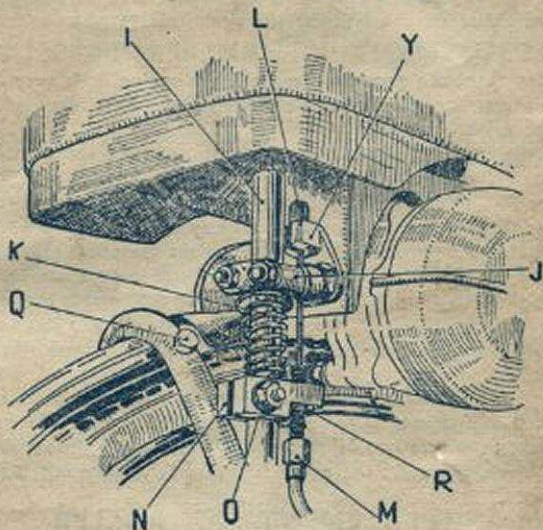

Fig. 4
Thread the compression spring "K" and domed washer on to the guide rod. The guide rod should then be passed between the guide rollers "J" and be maintained in position by the locking plate (Fig. 4.)
- (9) The controls should now be mounted on to the handlebars of the bicycle, the speed control (throttle) on the right-hand side, and the drive control on the left-hand side. See the position of the control levers to be convenient, but make sure that the cables have easy sweeping bends and are not led round sharp corners or are kinked. The speed control cable is already coupled up to the carburettor and needs no further adjustment.
- (1c) To couple up the drive control cable, first fit the round nipple into the handlebar lever and then push the cable into the groove in the lever, allowing the outer conduit to engage in the abutment. Now turning to the engine end of the cable, pass the inner cable through the slot in the adjuster screw bracket "N" and screw the adjuster screw "M" right home. (Fig. 4.) Now enter the cylindrical
- (11) Make sure that when the engine is engaged on the tyre (i.e., drive position of the handlebar lever) the roller does not slip if the bicycle is pushed and that the coils of the compression spring "K" (Fig. 4) are not compressed solid. Also, that when the roller is lifted by means of the drive control lever the tyre must be able to accomplish a complete revolution without touching the roller at any point. If one of these conditions is not fulfilled, adjust the pressure of the roller on the tyre (see following paragraph).